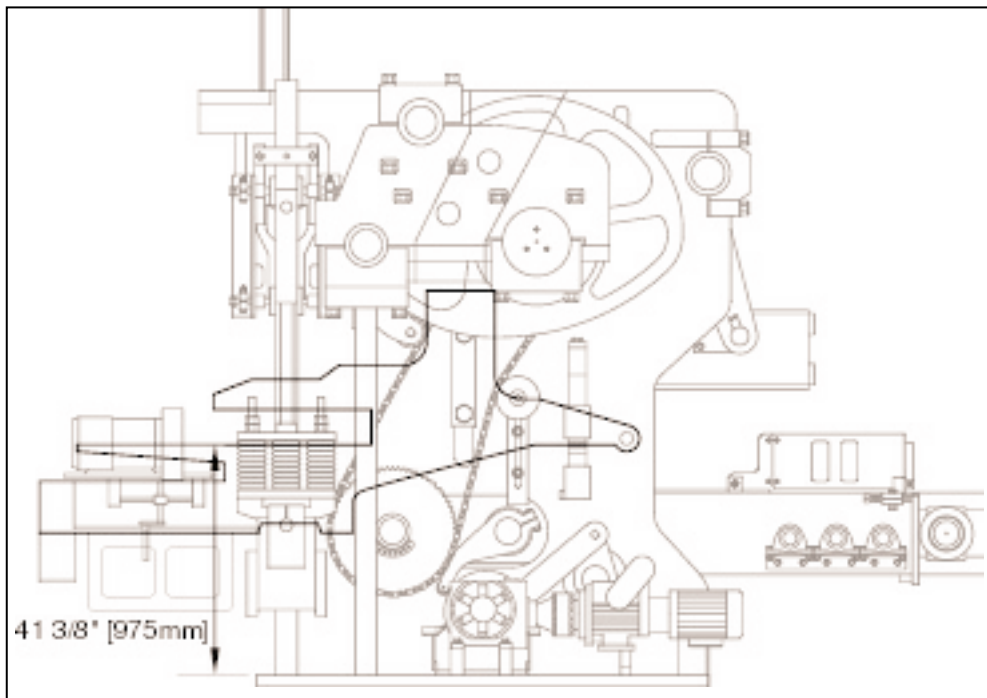

Figure 4.4 INNER FRAME ADJUSTMENT.
4.1.3 Adjust the inner frame so that the mold throat is **41 3/8" [1050mm]** above the top on the base plate (figure 4.4). **0.00" [0mm]** of spacers required (no spacers). To do so, follow these procedures: